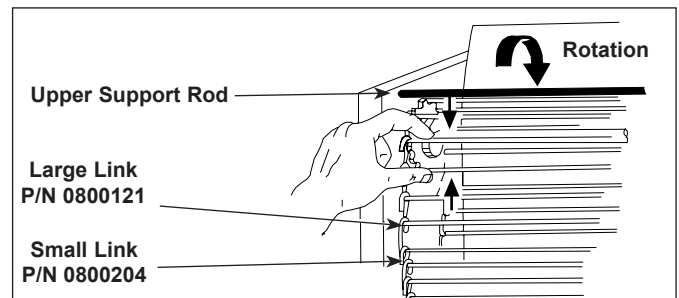

Figure 11. Removing Conveyor Belt Chain
9. Squeeze any two links together and unhook the links from each other (Figure 11). Needle-nose pliers may be used.
5. Disconnect the Conveyor Belt Chain by squeezing any two links together and unhook both ends of one link (Figure 11). Repeat on other side.
NOTE: The ends of the hooks must point down (Figure 11).